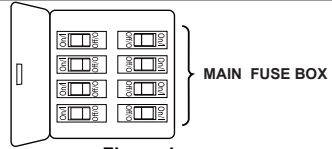

Figure 1
1. Remove the hanger ball portion from the downrod/hanger ball assembly by loosening the set screw in the hanger ball until the ball falls freely down the downrod. Remove the pin from the downrod, then remove the hanger ball. Retain the pin and hanger ball for reinstallation in Step 9. (Figure 1)
To avoid possible fire or shock, be sure electricity is turned off at the main fuse box before hanging. (Figure 1)
1. To set the code on receiver unit, slide dip switches to the same positions as set on the remote. (Figure 1)